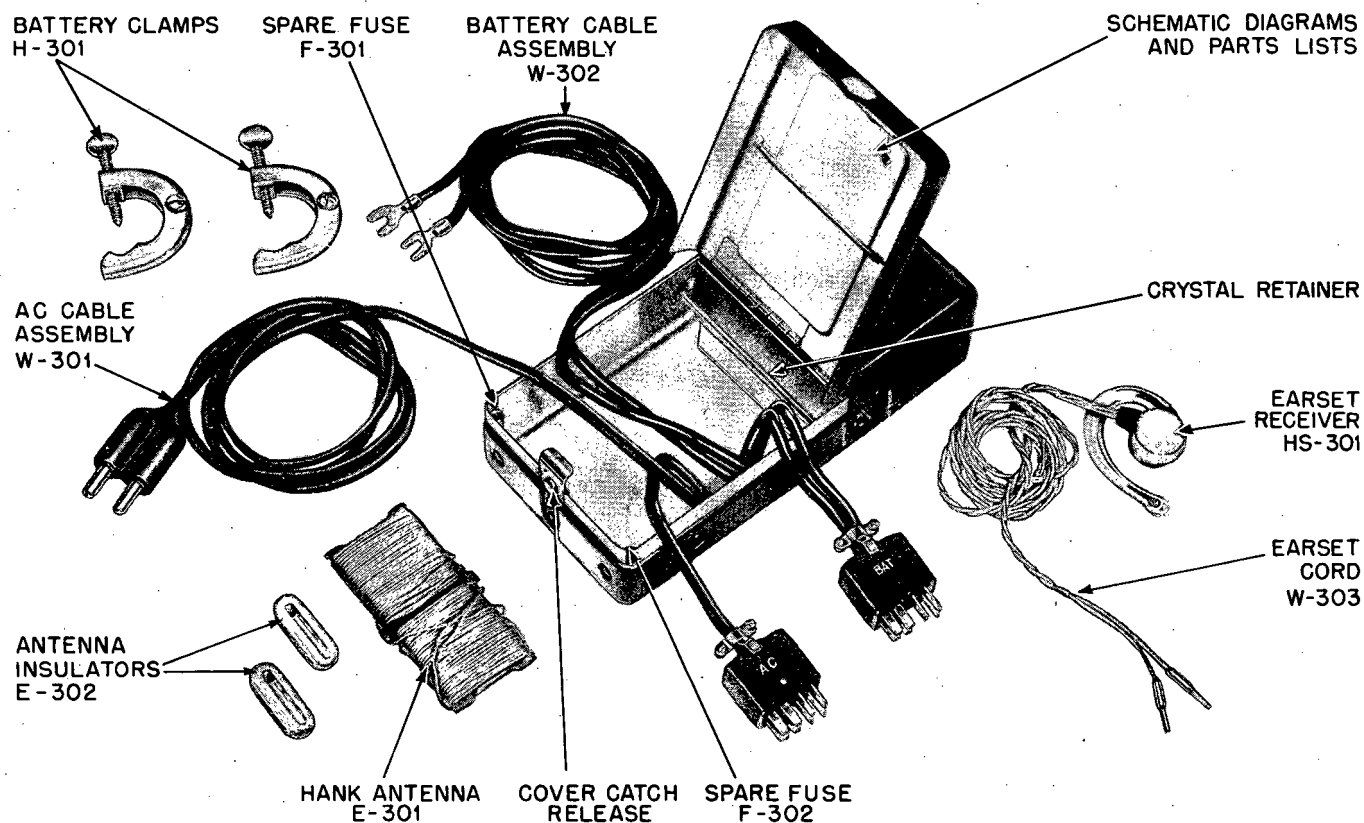

Figure 2. Filter-Accessory Unit RA-6 opened, showing accessories
- (1) Filters B+
- (2) Regulates receiver B+
- (3) Provides storage space for accessories and power cables. See Figure 2.